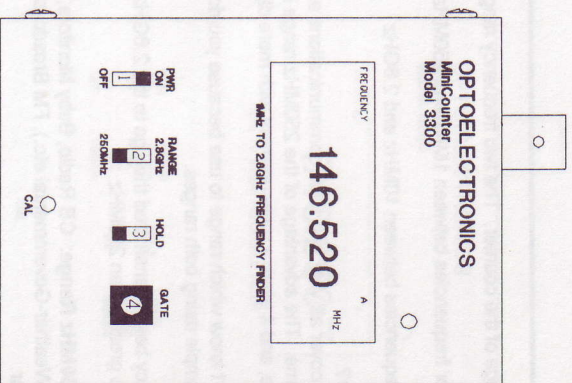

Figure 1
The power switch is labeled (1) in Figure 1. Slide the switch up to the ON position. Make sure that the Hold Switch labeled (3) is in the down (OFF) position. You should see the LCD display become active and the Red LED above the display should flash in time with the Gate measurement period.